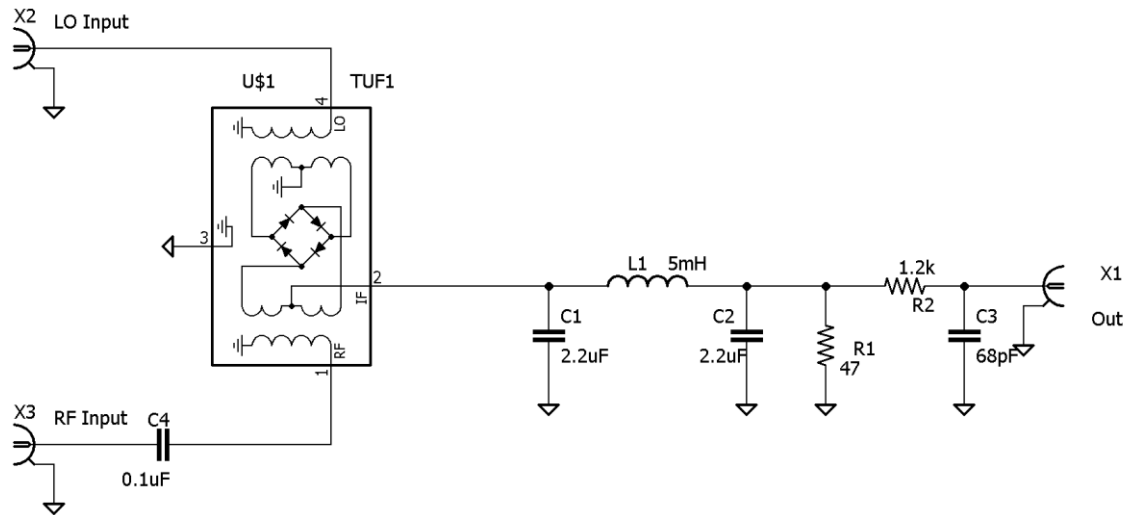
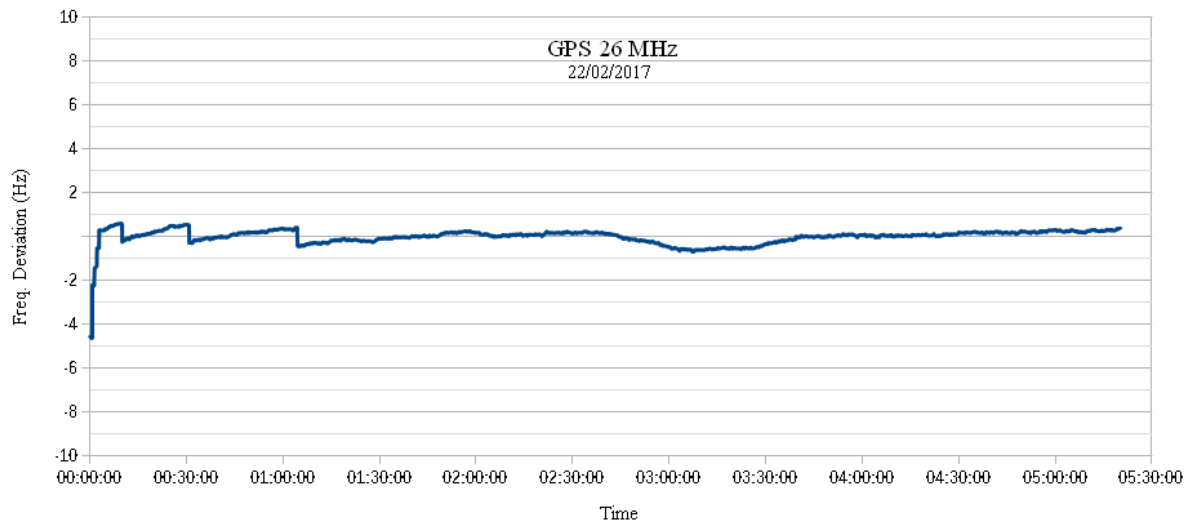

Figure 6
Figure 8
J. Audet VE2AZX's paper (5) was a big help for "setting me up" with Spectrum Lab. The schematic diagram of the mixer-low-pass filter unit is shown on Figure 6.
Many long duration tests were also carried out and Figure 8 shows one of them. It was obtained from a recorded Spectrum Lab file and shows the full 5 hours experiment, the start of which is presented on Figure 6 above.
This picture is very different from figure 6 : the signal level is changing (QSB), the carrier is continuous (CW) only for short time intervals and the S/N ratio is not as good. Anyway Spectrum Lab works wonders and extracts frequency information! One can see that the estimated frequency is 699.832 Hz instead of 700 Hz, i.e. around  $2 \times 10^{-8}$  absolute error at that time.